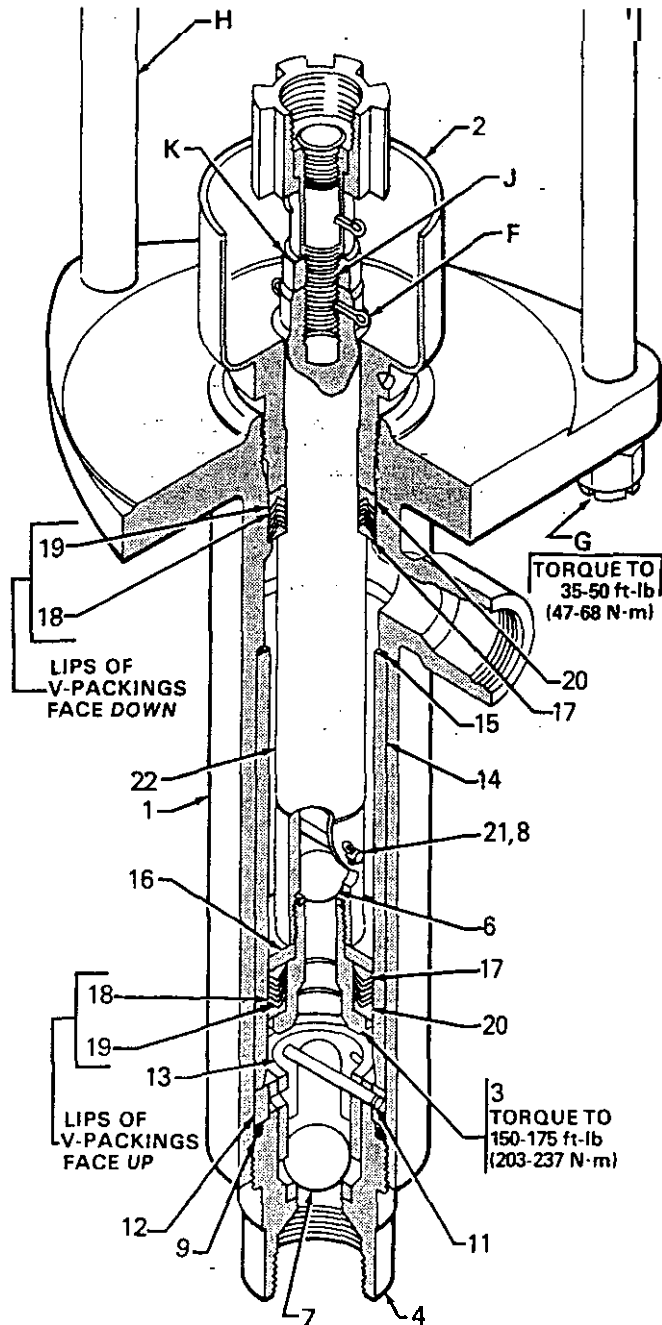
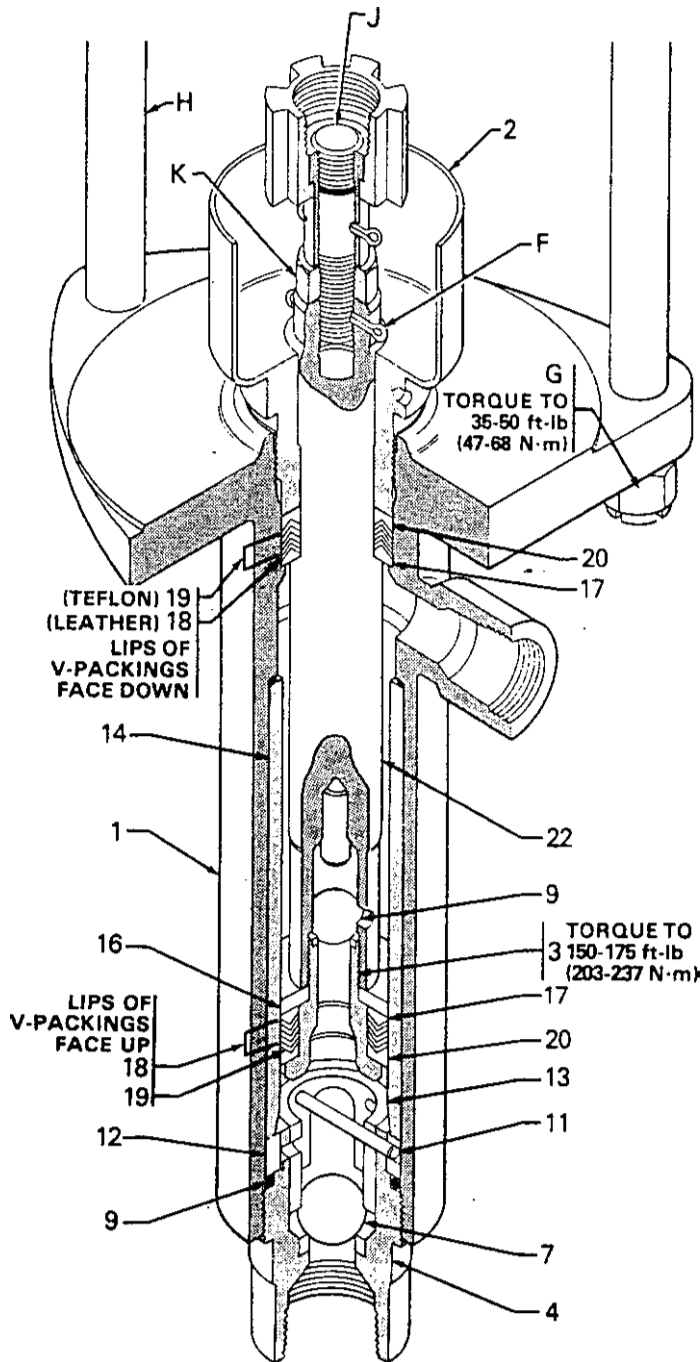

Fig 1
Fig 2
3. Refer to Fig 1 for displacement pump model 217-527. Refer to Fig 2 for displacement pump model 207-474.